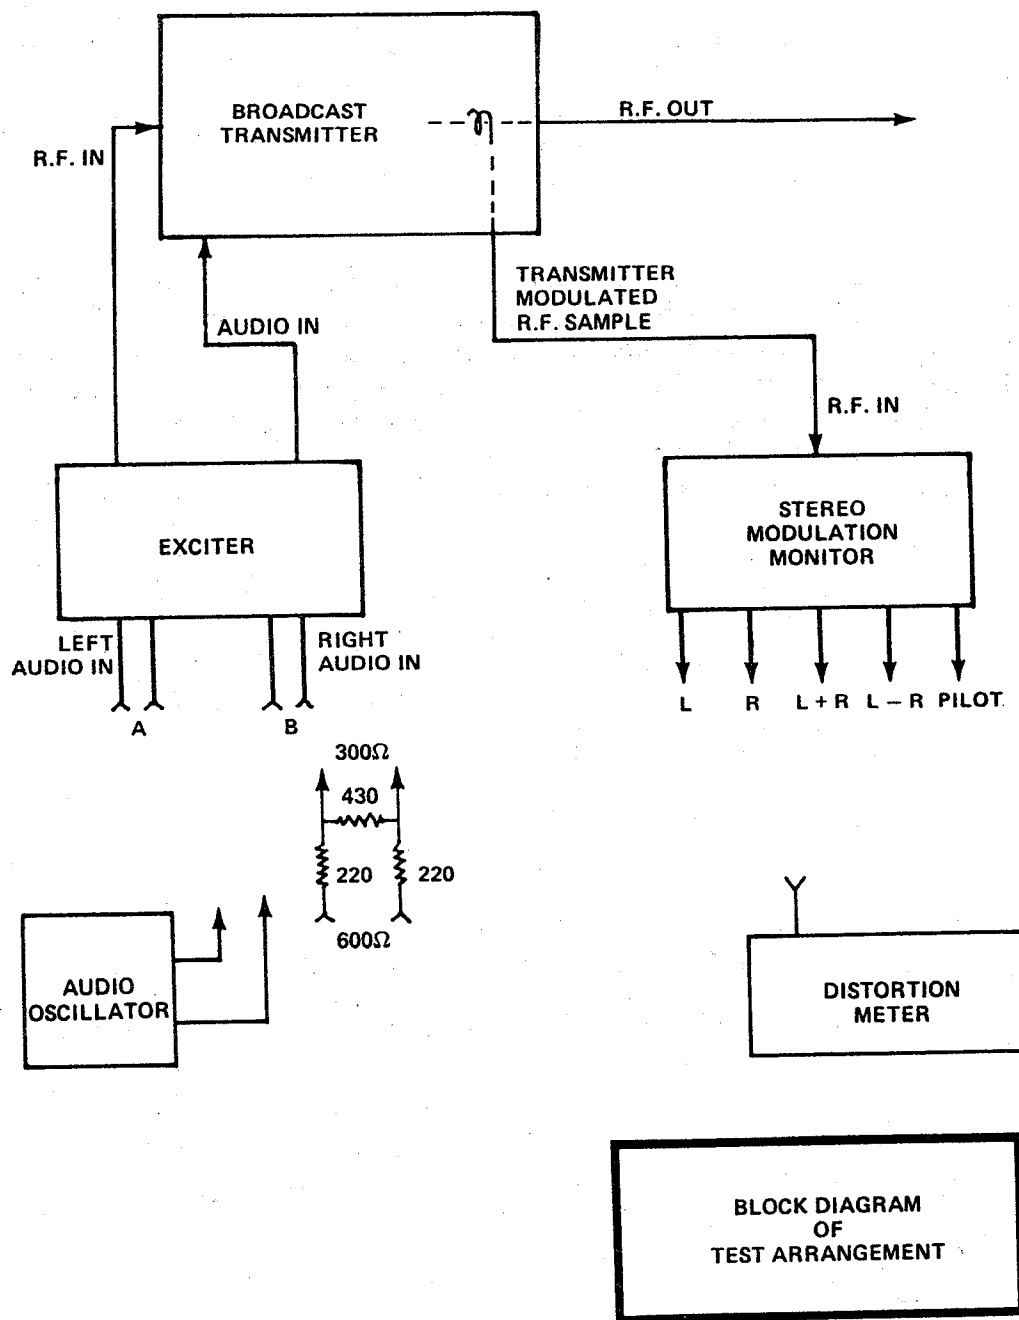

Figure 2.
Referring to Figure 2, the measurement of main (L+R) modulation capability is made by paralleling the left (A) and right (B) audio inputs to the stereo exciter (phased for L+R modulation) and connecting the audio oscillator through the pad to the junction. The main (L+R) modulation can be read directly on the modulation monitor by selecting "L+R" for the indication on the left hand meter (see Figure 2). The level of the audio oscillator can be increased until at least 85% modulation is read on the monitor. The frequency of the oscillator can be varied over the range of 50 to 5000 Hz while observing the level on the modulation monitor for the required modulation level.